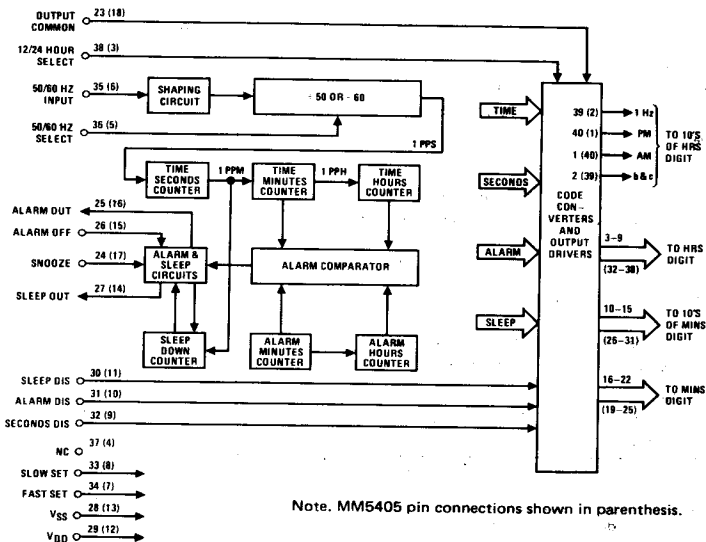

FIGURE 1
A block diagram of the MM5402, MM5405 digital clock radio circuit is shown in *Figure 1*. The various display setting modes are listed in Table I, and Table II shows the setting control functions. The following description is based on *Figure 1* and refers to both devices as they are electrically identical.
**Display Mode Select Inputs:** In the absence of any of these three inputs, the display drivers present time-of-day information to the appropriate display digits. Internal depletion pull-up devices allow use of simple SPST switches to select the display mode. If more than one mode is selected, the priorities are as noted in Table I. Alternate display modes are selected by applying VSS to the appropriate pin. As shown in *Figure 1* the code converters receive time, seconds, alarm and sleep information from appropriate points in the clock circuitry. The display mode select inputs control the gating of the desired data to the code converter inputs and ultimately (via output drivers) to the display digits.
**Alarm Operation and Output:** The alarm comparator (Figure 1) senses coincidence between the alarm counters (the alarm setting) and the time counters (real time). The comparator output is used to set a latch in the alarm and sleep circuits. The latch output enables the alarm output driver (Figure 4b) which is used to control the external alarm sound generator. The alarm latch remains set for 59 minutes, during which the alarm will therefore sound if the latch output is not temporarily inhibited by another latch set by the snooze alarm input or reset by the alarm "OFF" input.